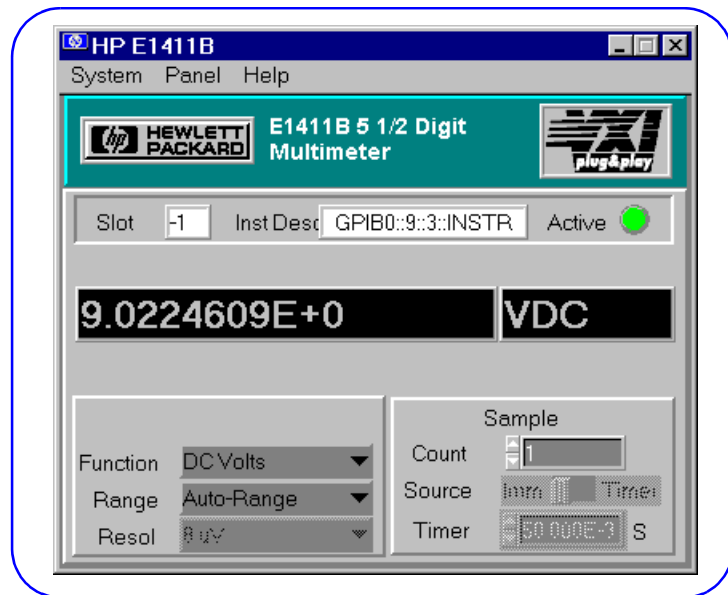

Figure 26. Example: HP E1411B Soft Front Panel Display
- 2 To display the HP E1411B Soft Front Panel, turn the PC ON and click *Start|Programs|Vxipnp|HP E1411 DVM (32-bit SFP)*. Then, to measure the 9V battery value, click the *System|Auto Update* menu item. See Figure 26 for a typical display.
3 Some features of the Soft Front Panel display in Figure 26 are: